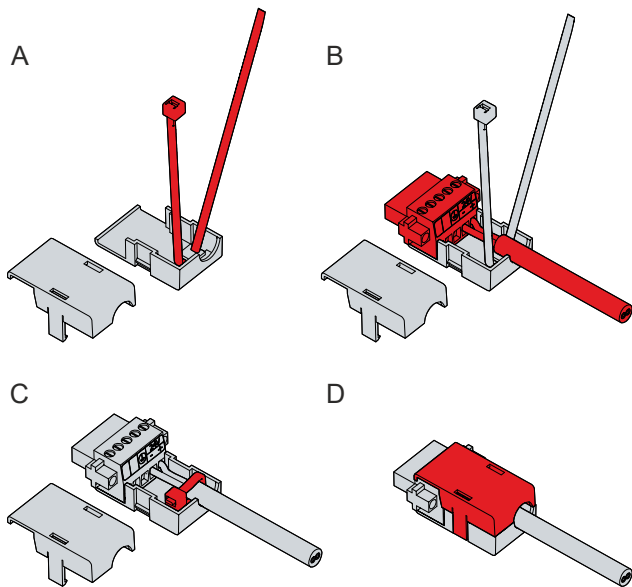

Fig. 13: CP6600_Assembly of strain relief housing
1. Use your fingers to bend the latching lugs on the lower part slightly outward (see Fig. 13).